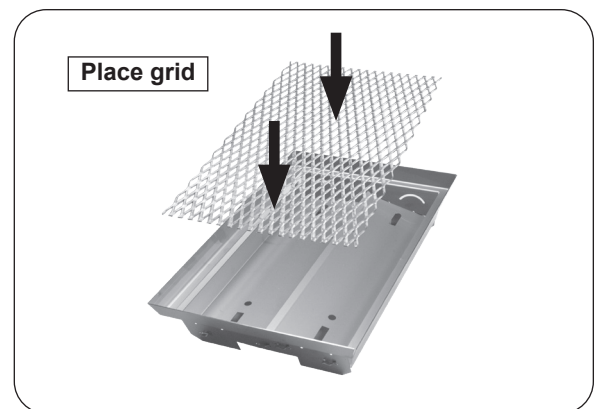

Fig. 36-2 Place grid inside basket
1. Place grid inside the basket frame (see Fig. 36-2).